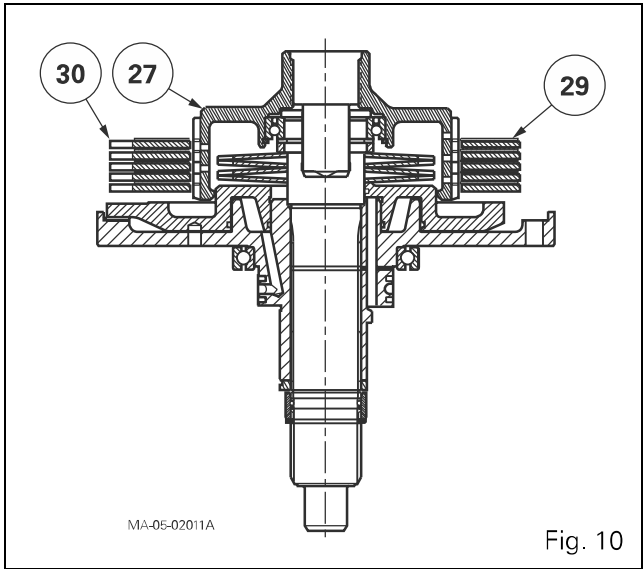

Fig. 10
56. Position the intermediate plates (30), aligning the tabs and the discs (29) on hub (27) according to the type of tractor (see remark and Fig. 10).